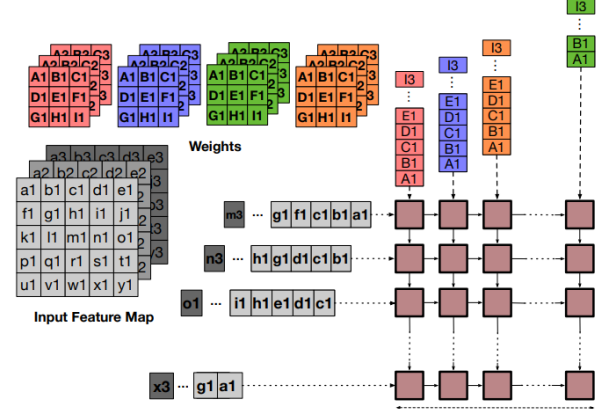

Figure 1: OS mapping schematic (from [2]).
**A.**  $36 \times 100$  (Figure 1). Execution performance is saturated at this point.